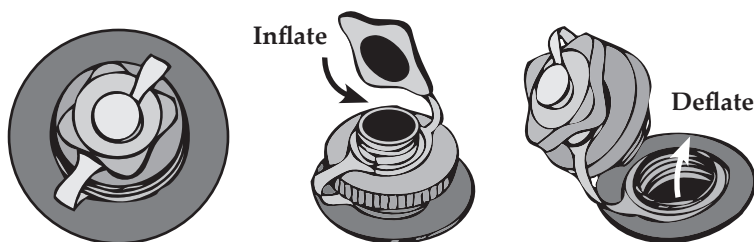

Figure 1. Inflate/Deflate Boston Valve
1. Locate the valves for the two bottom side chambers. Make sure the valve body is screwed in tightly. **See Figure 1.** Remove small cap and use the appropriate pump nozzle. If you own an Advanced Elements pump you should have a screw on valve adaptor; if you do not have this adaptor, you can obtain one by visiting our website at [www.advancedelements.com](http://www.advancedelements.com). This adaptor will attach to the valve; you must first press fit the adaptor to the valve and
1. Unscrew the valve bodies to the Main Inflation tubes and the Front and Rear Thwarts. **See Figure 1.**